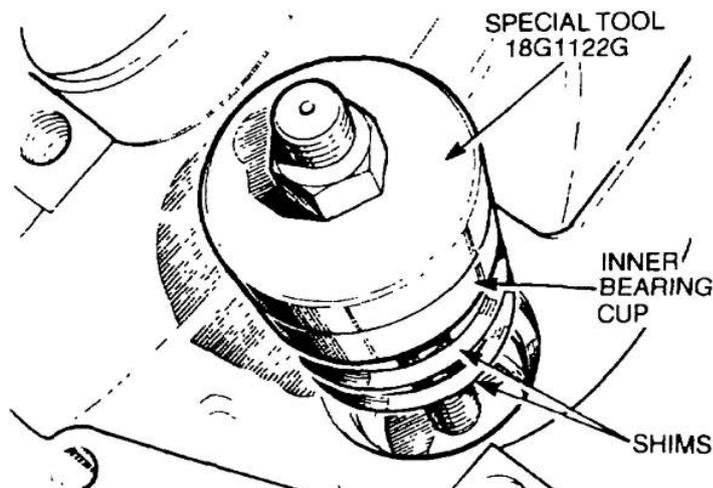

Figure 239 Installation of the Pinion Inner and Outer Bearing Cups
- c. Insert the selected shims in the inner bearing cup seat and position the inner bearing cup in the casing. Fit the cup replacing tool onto the press tool and secure it with the nut (Figure 239). Hold the centre bolt lever and turn the butterfly lever to press in both bearing cups. Remove the nut and the special tools.